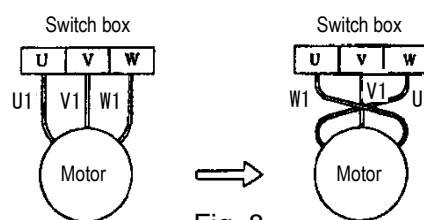

Fig. 8
- 2) Next, check the direction of rotation. Reverse direction of rotation is indicated by low capacity and abnormal noise and vibration. If the pump is found to be running in reverse rotation, change around the onnections of 2 of the 3 phases to obtain the regular rotation direction (See Fig. 8).